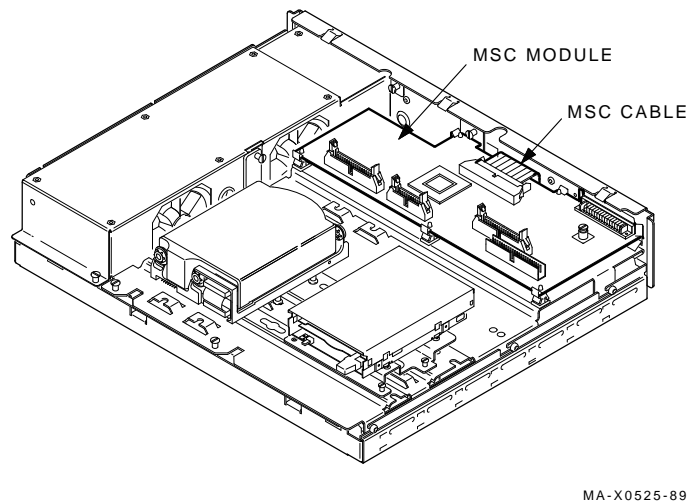

Figure 3-10 MSC Cable Connection
3. Connect the MSC cable to the MSC module. Figure 3-10 shows the ST506/SCSI MSC module. The SCSI/SCSI MSC module's MSC cable connects the same way.